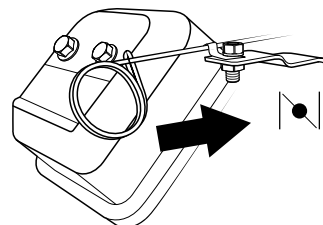

Figure 12. Engine Choke Lever (Closed)
4. If starting a cold engine, **push** the choke lever inward (Figure 12) to the **CLOSED** position.